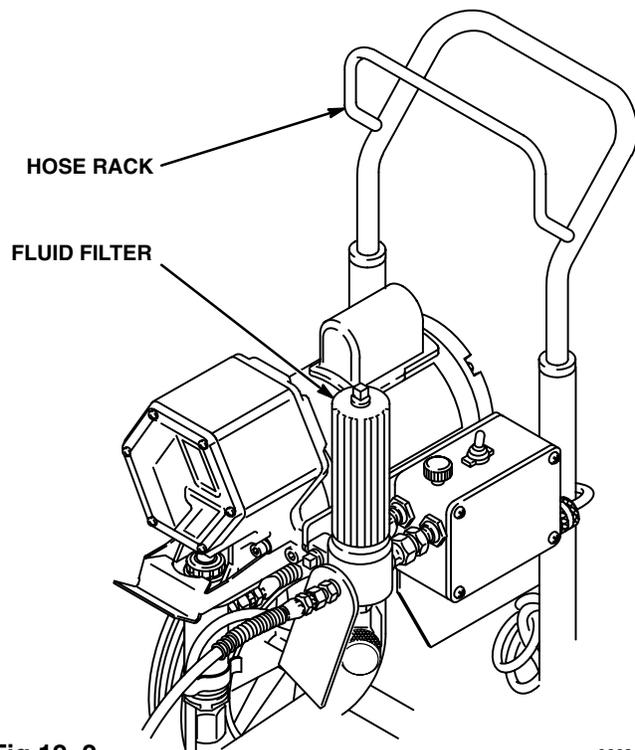

Fig 12-2
5. **Coil the hose** and hang it on the cart's hose rack when storing it, even for overnight, to help protect the hose from kinking, abrasion, coupling damage, etc. See Fig 12-2.